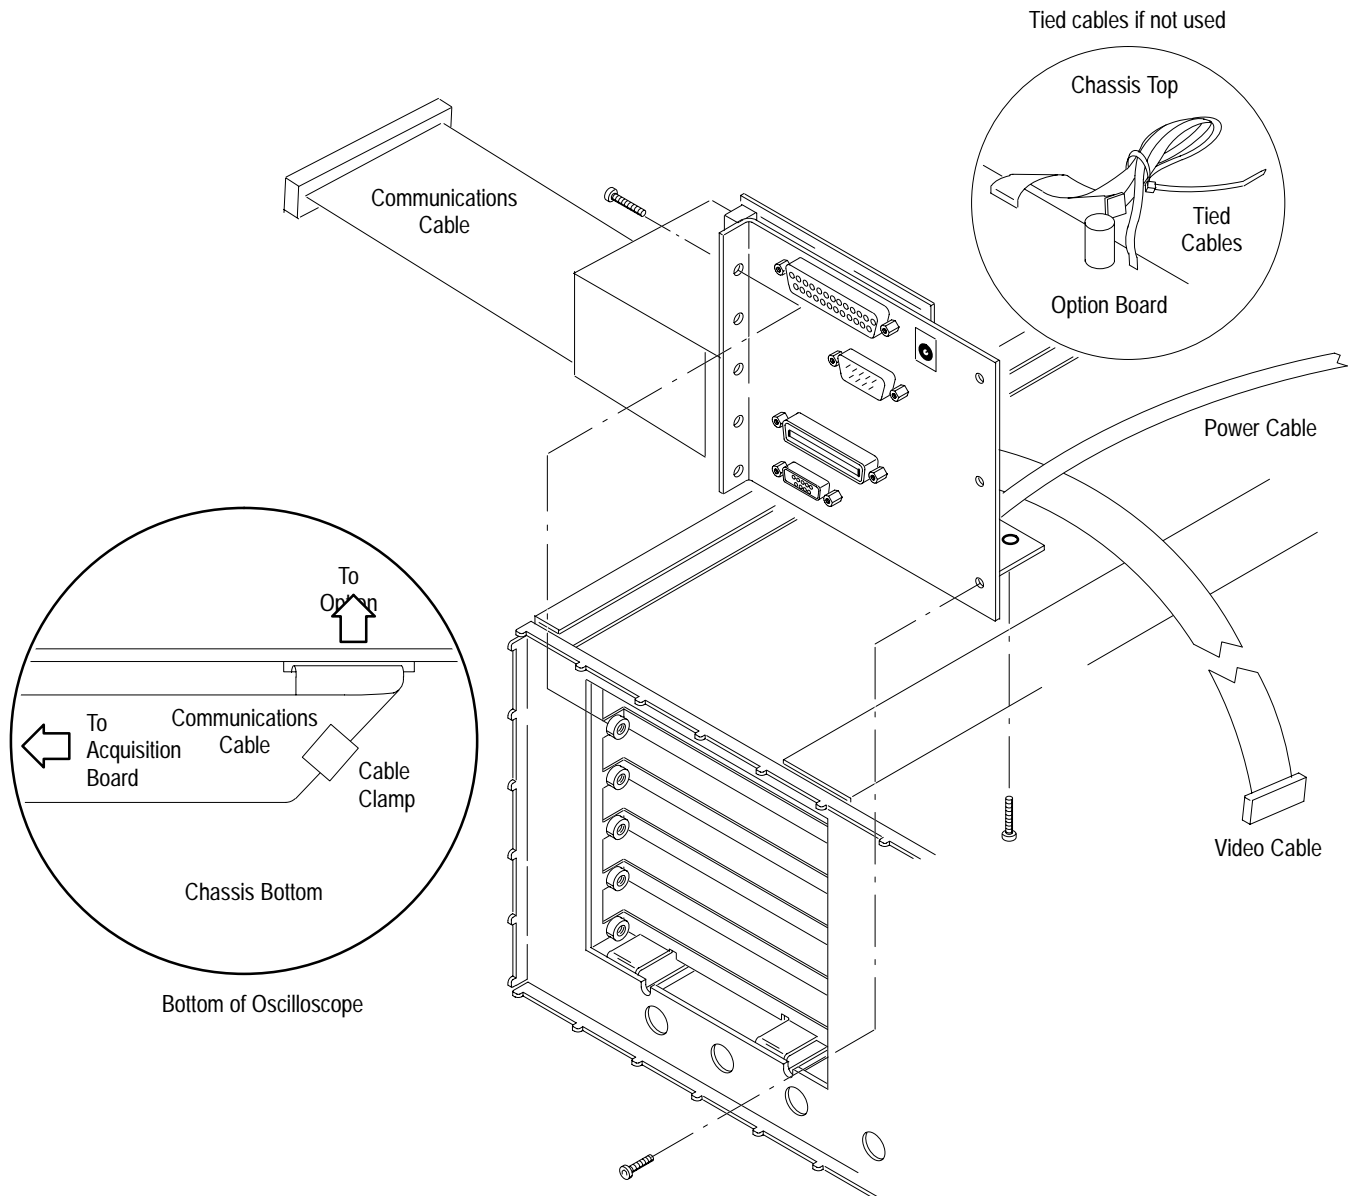

Figure 8-12: Option 14 Assembly Removal
3. Disconnect the main board communications cable (J601) *at the main board*. Remove the cable from its cable clamp (see Figure 8-12).
5. If used on your option, remove the two screws connecting the assembly to the chassis (see Figure 8-12) using a screwdriver with a size T-15 Torx® tip.
9. Using a screwdriver with a size T-15 Torx® tip, remove the two screws on the left side of the assembly (see Figure 8-12).